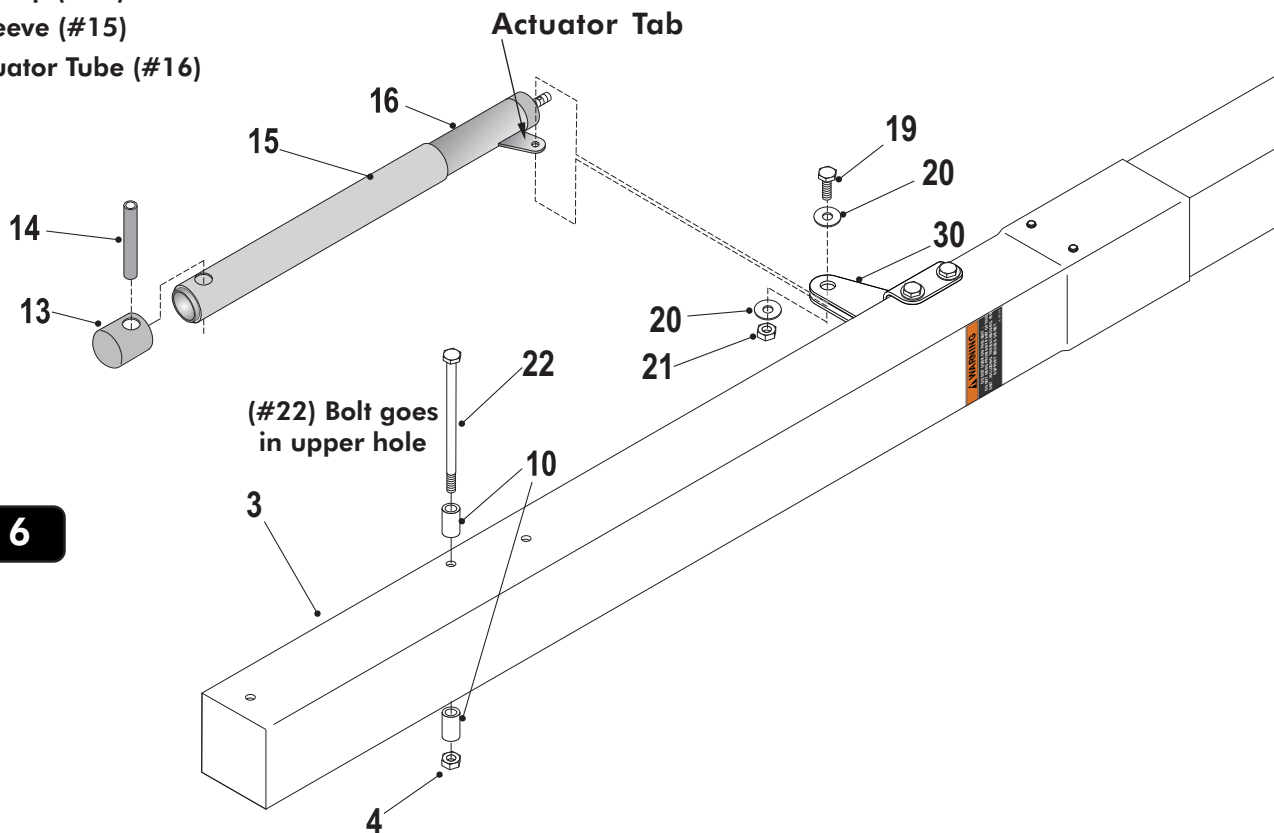

Figure 6
- If not already pre-assembled, slide Plastic Actuator Sleeve (#15) over Steel Actuator (#16) and place Actuator Cap (#13) on top. Align holes in all 3 parts and slide Pivot Tube (#14) through holes in Actuator Cap (#13), Plastic Actuator Sleeve (#15) and Steel Actuator Tube (#16) until equal amounts stick out through both sides of actuator. See **Figure 6**.
- While still on the two padded saw horses, Slide tab on Actuator (#16) between Post Ears (#30) and secure using one bolt (#19), two washers (#20) and one lock nut (#21). Tighten Lock Nut (#21) snug but **do not over tighten**. See **Figure 6**.
- Secure two stop spacers (#10) to pole, as shown in **Figure 6**, using one hex bolt (#22) and one lock nut (#4). Tighten Lock Nut (#4) but **do not over tighten**.